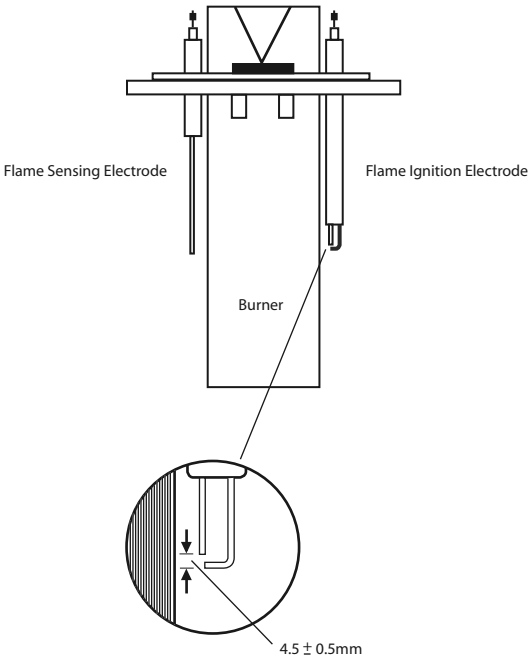

Figure 6.2 Spark & Flame sensing electrodes
- Remove the (3) hexagon nuts fixing the assembly to the top of the boiler using a 11mm AF spanner.
- Check and if necessary reset the ignition spark gap to  $4.5 \pm 0.5$ mm and the flame sensor position (figure 6.2).